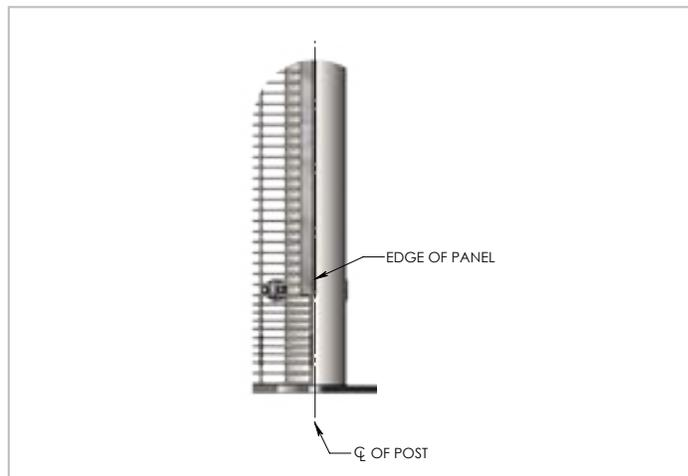

FIG. 2
- 3) Ensure that edge of panel is aligned with the centerline of the post. (Fig. 2)